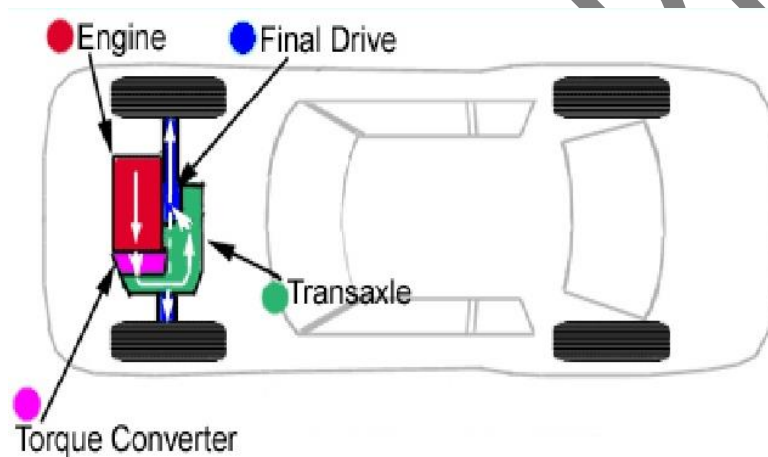

Figure 1
a) What is the power train and transmission layout shown in Figure 1? (2 marks)
b) State **two** reasons why the power train and transmission layout in Figure 1 is used. (2 marks)